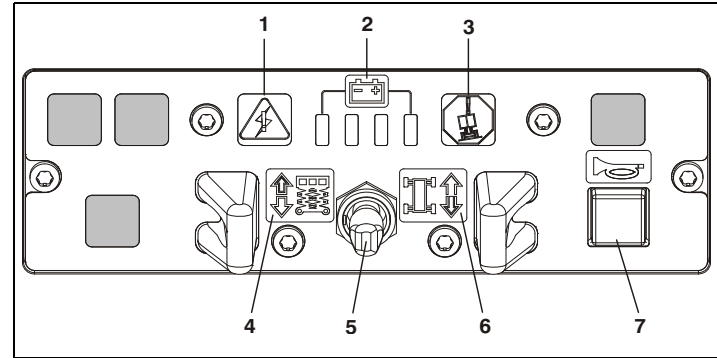

Figure 3-8. Platform Control/Indicator Panel
Drive - The drive function must be selected using the drive/lift selector switch (*items 5 and 6 on the Platform Control/Indicator panel - Figure 3-8.*), prior to moving the control handle. After selecting the drive function, engage the trigger switch lever, then move the control handle forward to drive the machine forward or move the control handle backwards to drive the machine backward.
Lift - After selecting the lift function using the drive/lift selector switch (*item 4 and 5 on the Platform Control/Indicator panel - Figure 3-8.*), engage the trigger switch lever, moving the control handle backward to raise the platform and moving the control handle forward will lower the platform.